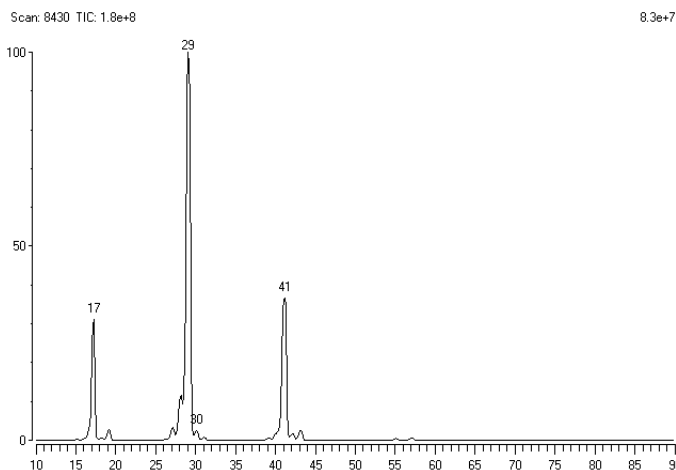

Figure 1-29 Positive Ion CI Spectrum (2.5 mL/min Methane)
- b. Verify that the **Reagent Gas spectrum** is similar to Figure 1-29 Positive Ion CI Spectrum (2.5 mL/min Methane).